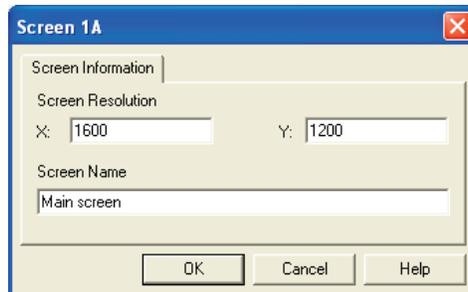

Figure 4-3. Defining the resolution of a screen and (optionally) a name
3. Double-click on each screen representation to set the screen resolution and, optionally, to add a screen name. The screen resolutions are not critical but they enable the ServSwitch Freedom unit to accurately map the movement of the mouse onto corresponding movements of the pointer across the screens. The screen names, if used, are not downloaded to the ServSwitch Freedom unit. See Figure 4-3.